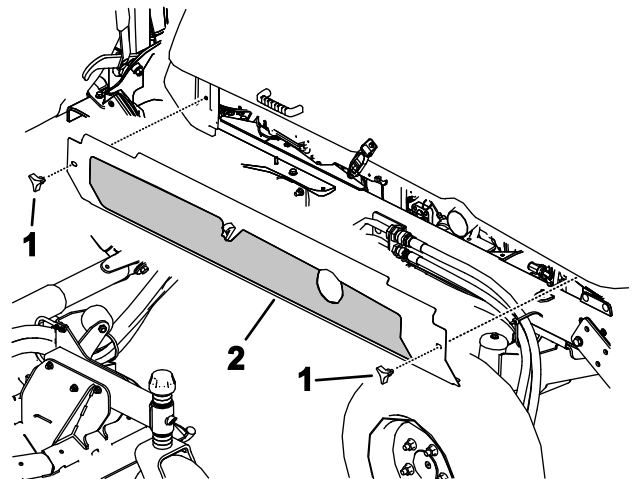

Figure 108
4. Loosen the knobs and remove both side shrouds (Figure 108).
5. Install the side shrouds (Figure 108).